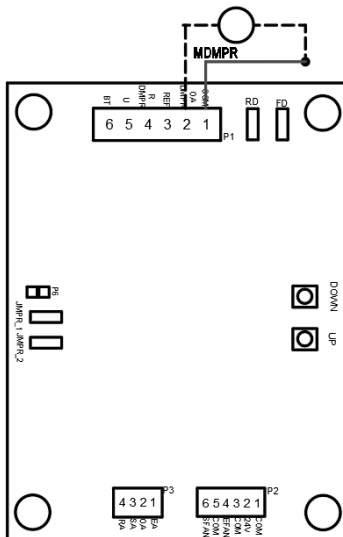

FIGURE 26 - Outside Air Damper Connection
2. Attach 24V lead to OA DMPR connection on P1 terminal (See **FIGURE 26 - Outside Air Damper Connection**) on the ERV control board.